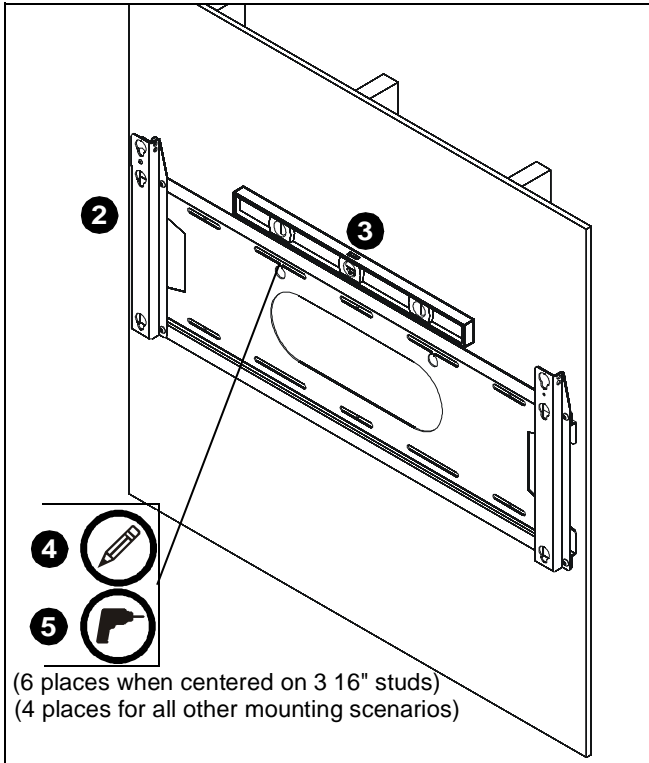

Figure 4
2. Using appropriate lifting device, raise assembled mount and place mount against wall in desired installation location. (See Figure 4)
3. Level and adjust horizontal position making certain slots in upper and lower horizontal brackets on mount are properly positioned over studs. (See Figure 4)
4. Using a pencil, or similar marking tool, mark the location of mounting holes in base onto surface. (See Figure 4)
5. Drill four or six pilot holes (6 if centered on 3 16" studs and 4 for all other mounting scenarios), at marked locations. (See Figure 4)